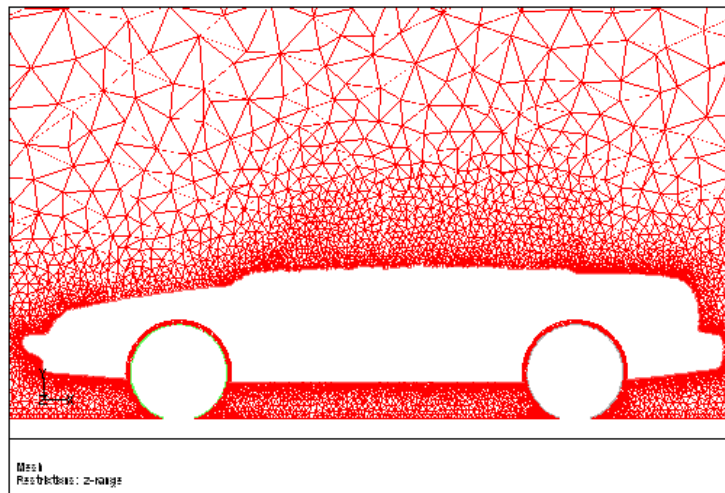

Figure 2.11: Slide of Cells at  $Z = 0.38$
- (b) Display the mesh on a slide through the wheels ( $z = 0.38$ ). See Figure 2.11.